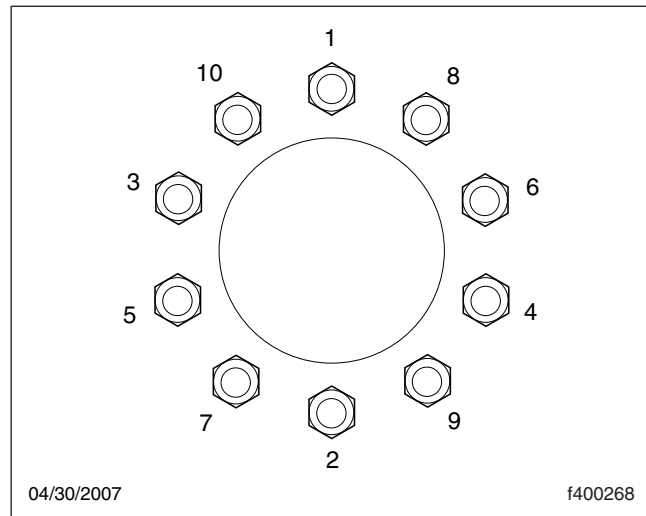

Fig. 23.4, Tightening Pattern, 10-Hole Wheels
- 3.3 Make sure all wheel nuts are tightened. If tightening is necessary, use the tightening pattern in Fig. 23.4 to initially tighten the flange nuts to 50 to 100 lbf·ft (68 to 136 N·m). Then tighten the flange nuts to 450 to 500 lbf·ft (610 to 678 N·m).